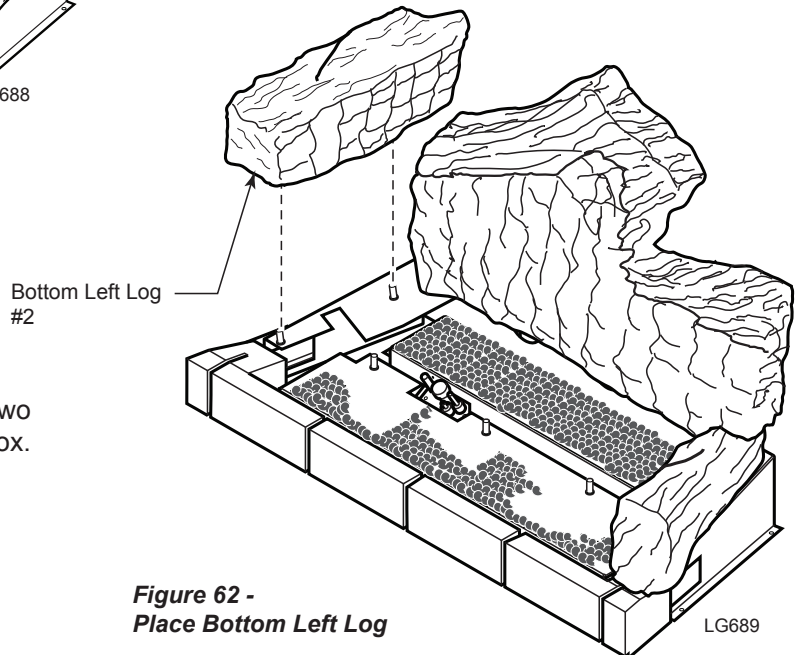

Figure 62 - Place Bottom Left Log
- Place bottom left log (#2) on two pins against left side of firebox. *Figure 62*